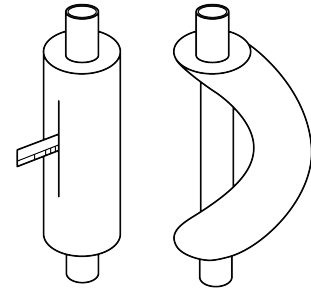

Fig. 21
- (2) Do not bend the pipe over 90°.
- (3) If pipe is repeatedly bent or stretched, it will get hard and difficult to bend and stretch again. Therefore, do not bend or stretch the bend for over 3 times.
- (4) In case that direct bending will open cracks to the pipe, first use sharp cutter to cut the insulating layer, as shown in Fig.21. Do not bend the pipe until it is exposed. When bending is done, wrap the pipe with insulating layer and then secure it with adhesive tape.